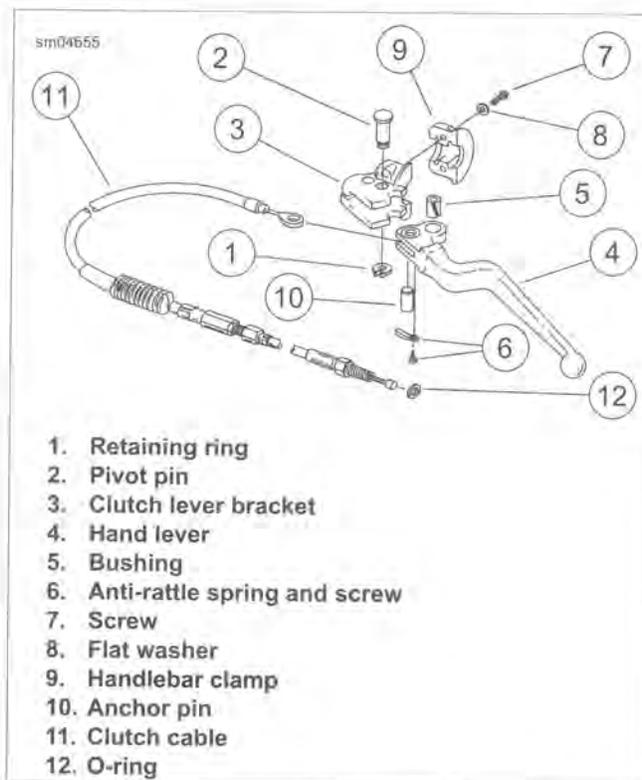

Figure 2-87. Clutch Hand Lever Assembly
5. See Figure 2-87. Remove retaining ring from pivot pin. Remove pivot pin.
1. See Figure 2-87. Insert cable eyelet into groove of clutch hand lever. Insert anchor pin.